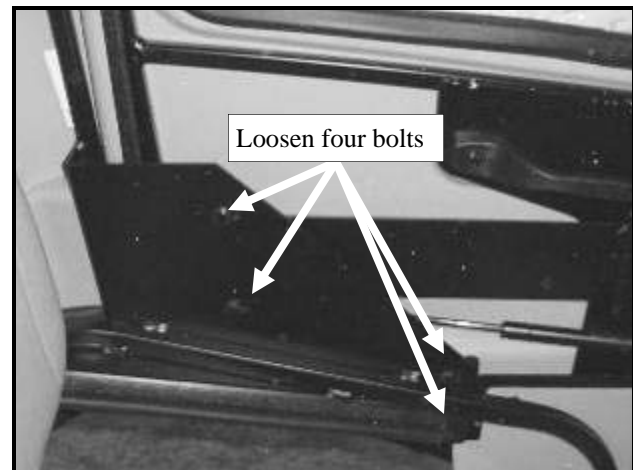

Fig. 4.3 (view from inside of driver's side door)
4.3 If further adjustment of the door is required, the hinge location can be modified. Remove the seat. Per fig. 4.3, loosen the four hinge bolts.